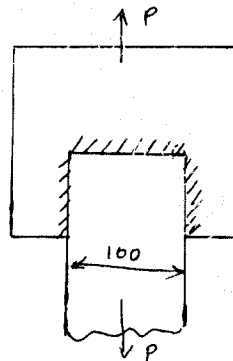

Fig.Q7(b)
- b. A plate 100 mm wide and 12.5 mm thick is to be welded to another plate by means of a single transverse and double parallel fillet welds as shown in Fig.Q7(b). Determine the length of the weld run in each case if the joint is subjected to varying loads (+P to -P). The plates are made of mild steel. The maximum load 'P' carried is limited by an allowable tensile stress of 70 MPa for the joint.